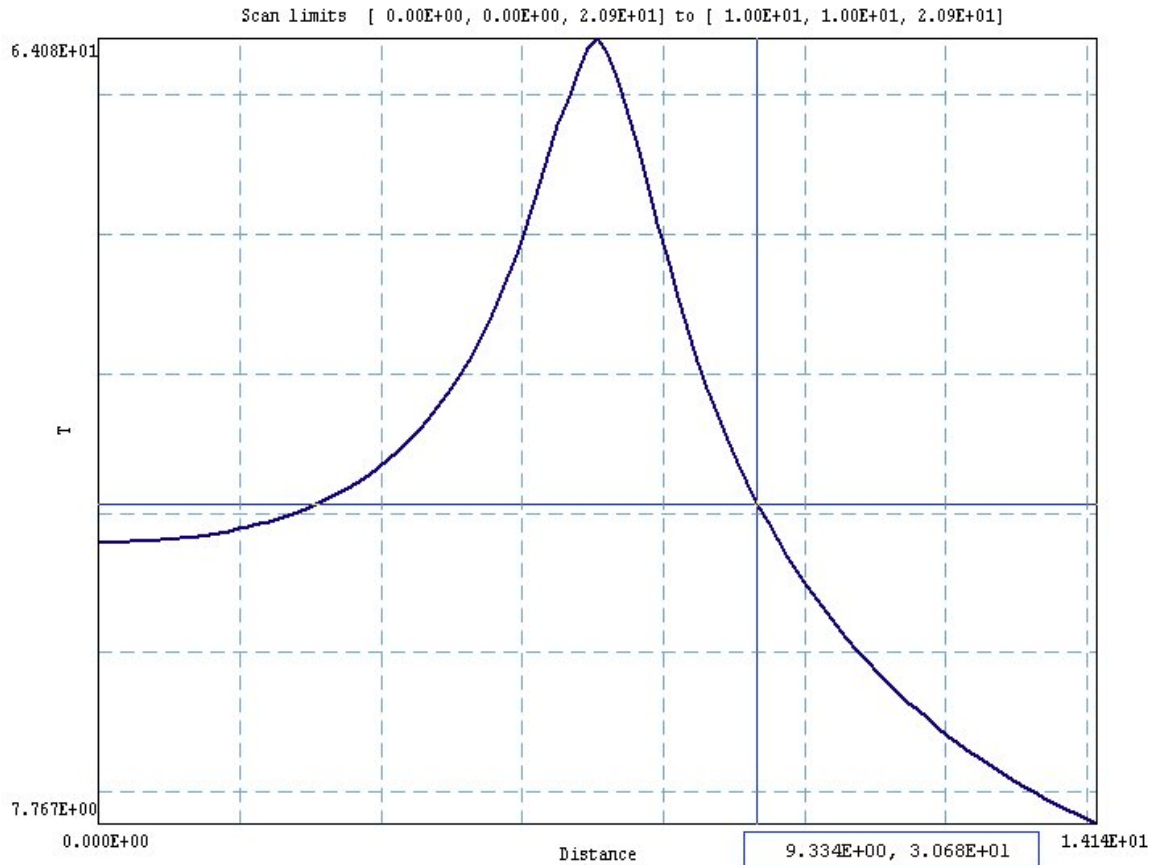

Figure 1.6. Scan plot in the oscilloscope mode.
- Next move the mouse to the position ($x = 10.0$, $y = 10.0$) and click the left button. The program computes 100 values along the scan line, enters the scan menu and creates the plot shown in Fig. 1.6.